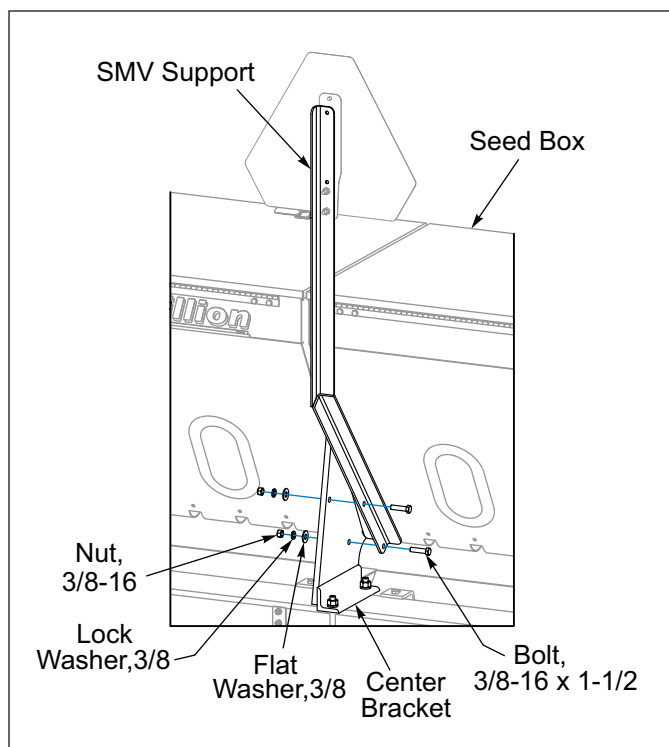

Figure 2-4: SMV Mount
4. 8FT and 10FT Seeders, install SMV Support to Seed Box Center Bracket with 3/8-16 x 1-1/2 Bolts and Locknuts. **See Figure 2-4.**